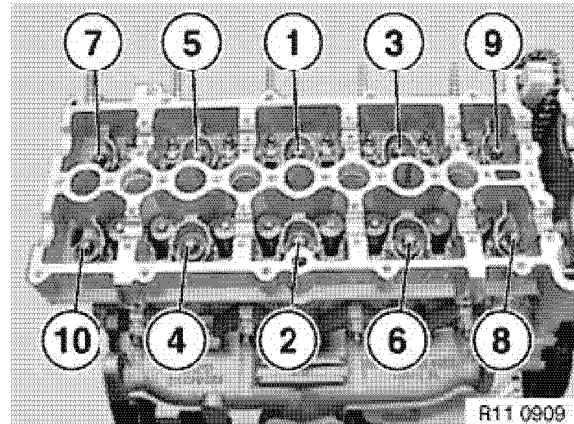

Figure 5-17
21. **4BY3 Engines:** Remove cylinder head bolts in reverse sequence, beginning with number 10 (Figure 5-17).